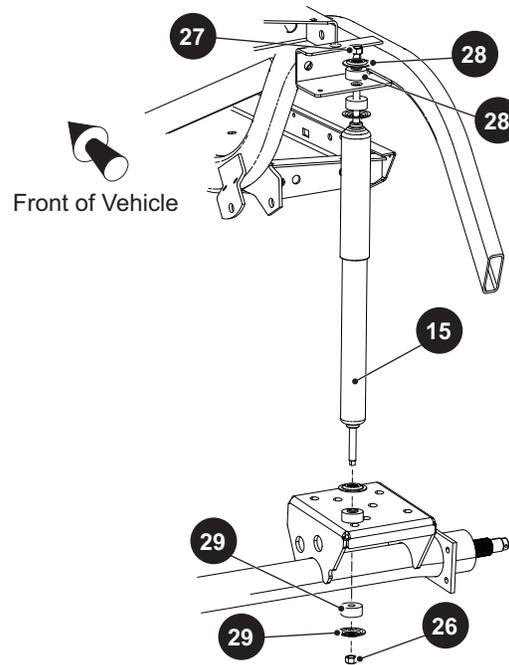

Fig. 6 Shock Absorber
4. Remove the bottom shock absorber nut (26), washers (28), and bushings (29) (Ref. Fig. 6).
5. Compress the shock absorber (15) to remove it from the lower bracket.
6. Remove the top shock absorber nut (27), washers (28), and bushings (29).
7. Remove the shock absorber (15) (Ref. Fig. 6).
3. Remove the bottom shock absorber nut (26) (Ref. Fig. 6).
5. With both the rear axle and the frame supported, remove the U-bolts (16).